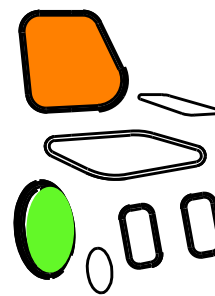

Figure 4 **Driving inhibition indicator**
E.g. Figure 4: The backrest and drive wheel LED's on the indicator are pulsing. This means that the backrest inclination is too large, causing driving inhibition.